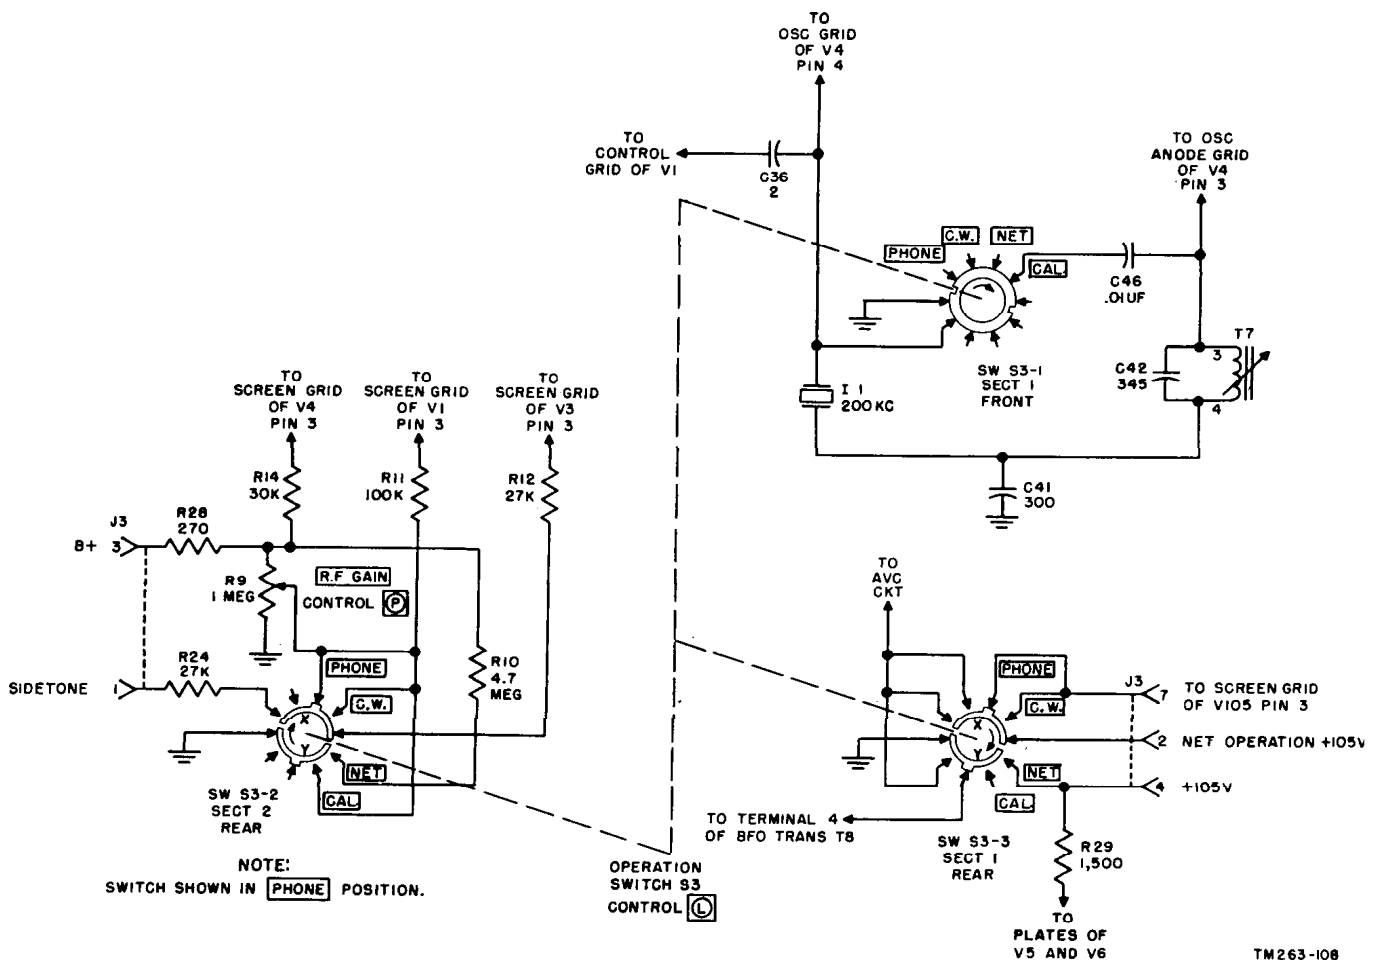

Figure 65. Operation switch S3, simplified schematic diagram.
a. Two if. amplifier stages are used: the first stage, V3, uses tube type 1L4, and the second stage, V4, uses tube type 1R5. The primaries and secondaries of if. transformers T4, T5, and T6 are shunted by capacitors C31 and C32, C37 and C38, and C44 and C45, respectively. These capacitors, combined with adjustable powdered iron cores inserted in the primary and secondary coils, tune the transformers to 456 kc. The 456-kc signal from the plate of V2 is applied to the primary of T4, appears in the secondary by induction, and is applied to the control grid, pin 6, of V3. Capacitor C35 acts as an rf bypass for the screen grid of V3. Capacitor C35 acts as an rf bypass for the screen grid of V3. Capacitor C46 is the screen grid bypass for V4 in all positions except the CAL. position of operation switch S3 (par. 95). Resistor R14 is the screen-dropping resistor for V4. The avc voltage supplies bias to V3 through the secondary of T4. Capacitor C33 is used as a filter capacitor for the avc as well as completing the rf path from the low side of the secondary of T4 to ground. Capacitor C40 is a bypass capacitor for the B+ supply line. The gain of V3 is controlled manually by potentiometer R9, R.F. GAIN, control (P), which varies the voltage supplied to the screen grid. During net operation only, the gain control is removed from the circuit and R10, a large fixed resistor (fig. 65) is substituted in its place. Refer to paragraph 95 for the description of this switching circuit.
When operation switch S3-1 (fig. 65) is in either the PHONE, C.W., or NET position, the oscillator portion is shorted out and the tube acts as a straight if. amplifier. No avc voltage is applied to the control grid of V4. A very small bias exists only between the control grid and the center of the filament element because the low side of the secondary of T5 is connected to filament pin 1 (ground). Plate voltage is fed through rf filter resistor R15, which is bypassed to the filament ground line by filter capacitor C43.
95. Operation Switch S3 (fig. 65)